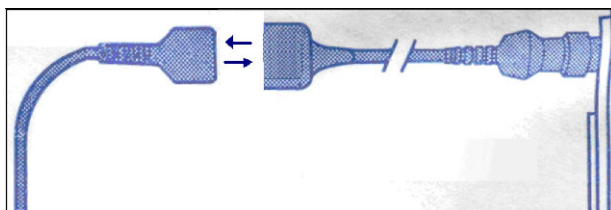

Figure 7-8 Test the Pressure Cable
- 1) Disconnect the catheter from the cable. Insert the cable check plug into the catheter end of the cable. (See Figure 7-8).